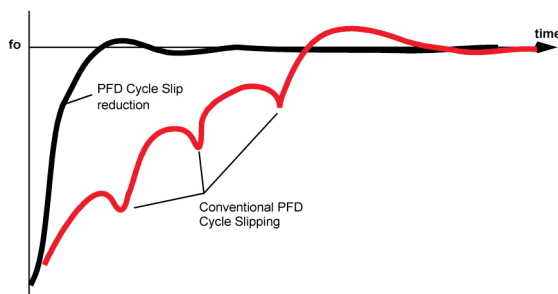

Figure 13. Cycle Slip Prevention (CSP)
When the VCO is not yet locked to the reference, the instantaneous frequencies of the two paths are different, and the phase difference of the two paths at the PFD varies rapidly over a range much greater than  $\pm 2\pi$  radians. Since the gain of the PFD varies linearly with phase up to  $\pm 2\pi$ , the gain of a conventional PFD will cycle from high gain, when the phase difference approaches a multiple of  $2\pi$ , to low gain, when the phase difference is slightly larger than a multiple of 0 radians. The charge on the loop filter small cap may actually discharge slightly during the low gain portion of the cycle. This can make the VCO frequency actually reverse temporarily during locking. This phenomena is known as cycle slipping. Cycle slipping causes the pull-in rate during the locking phase to vary cyclically as shown in the red curve in Figure 13, and increases the time to lock to a value far greater than that predicted by normal small signal Laplace analysis.
The HMC700LP4(E) PFD features an ability to virtually eliminate cycle slipping during acquisition. When enabled, the Cycle Slip Prevention (CSP) feature essentially holds the PFD gain at maximum until such time as the frequency difference is near zero. Cycle Slip reduction, allows faster lock times as shown in Figure 13. The use of the cycle slip feature is enabled with `csp_enable` (see Table 14).